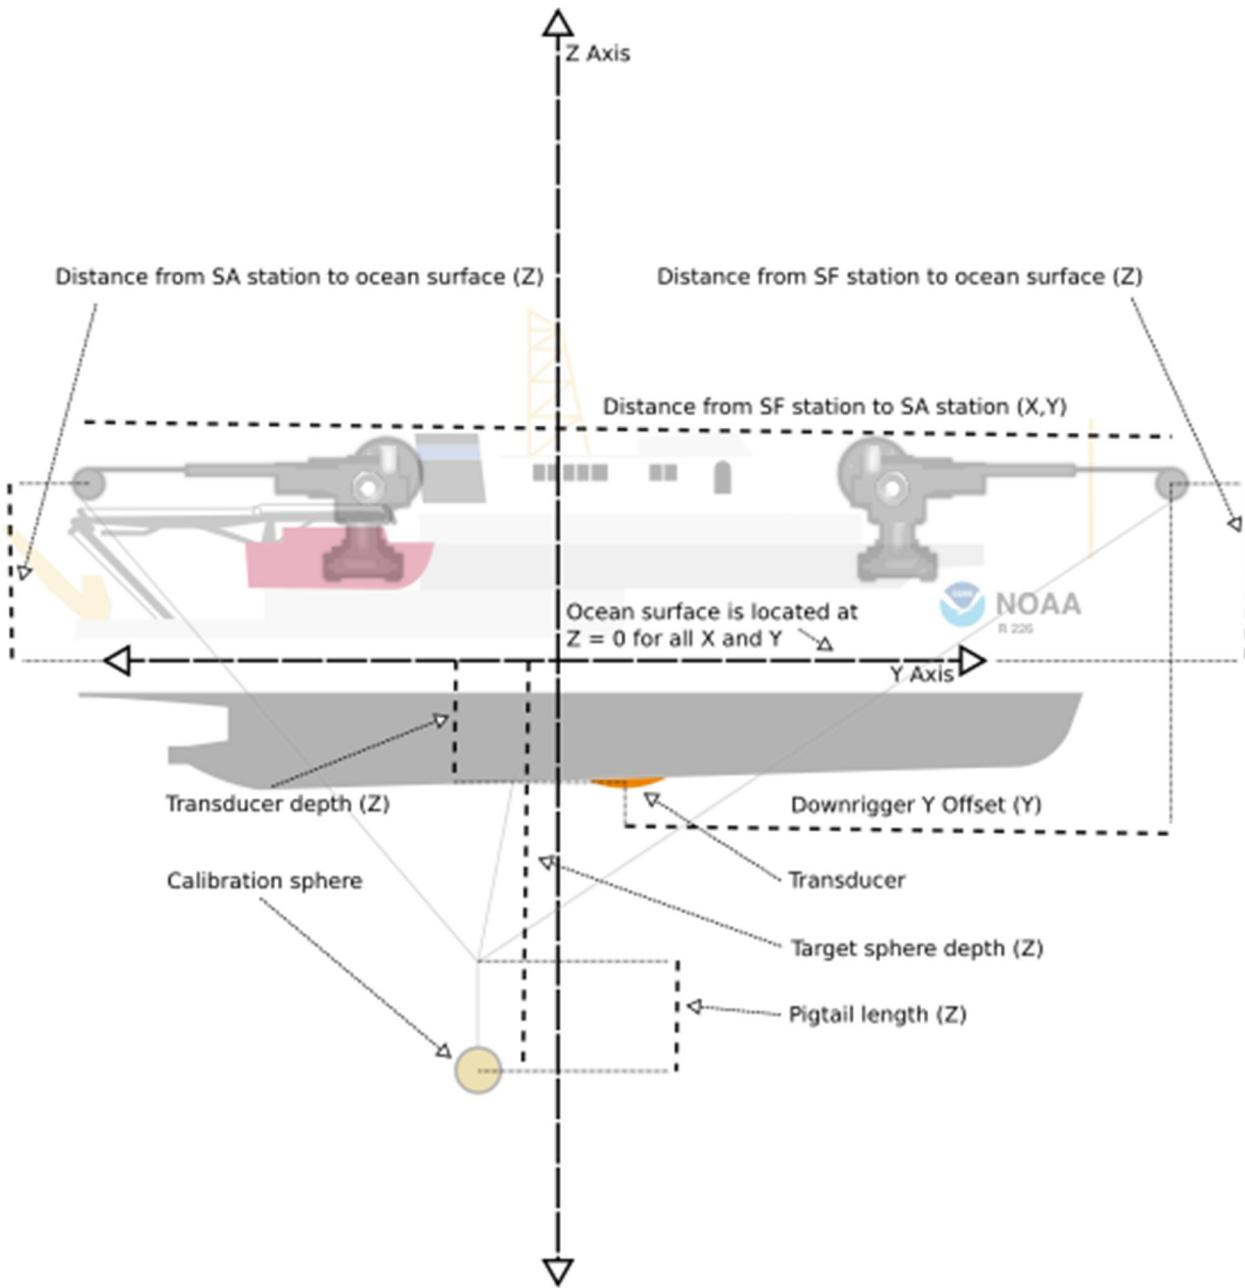

Figure 14: Side view of vessel measurement layout.
The distance 'from' and 'to' entry fields are variable and change with the vessel configuration type selection. For example, in Figure 14, there is a measurement from the Starboard Forward (SF) downrigger to the Starboard Aft (SA) downrigger. In the rightmost column the user enters the distance in meters in a straight line between the 'from' and 'to' downrigger stations. The vessel width, transducer depth and target depth input fields refer to the distance of the vessel's width, the depth of the transducer from the ocean surface and the estimated depth of the echo-gram target